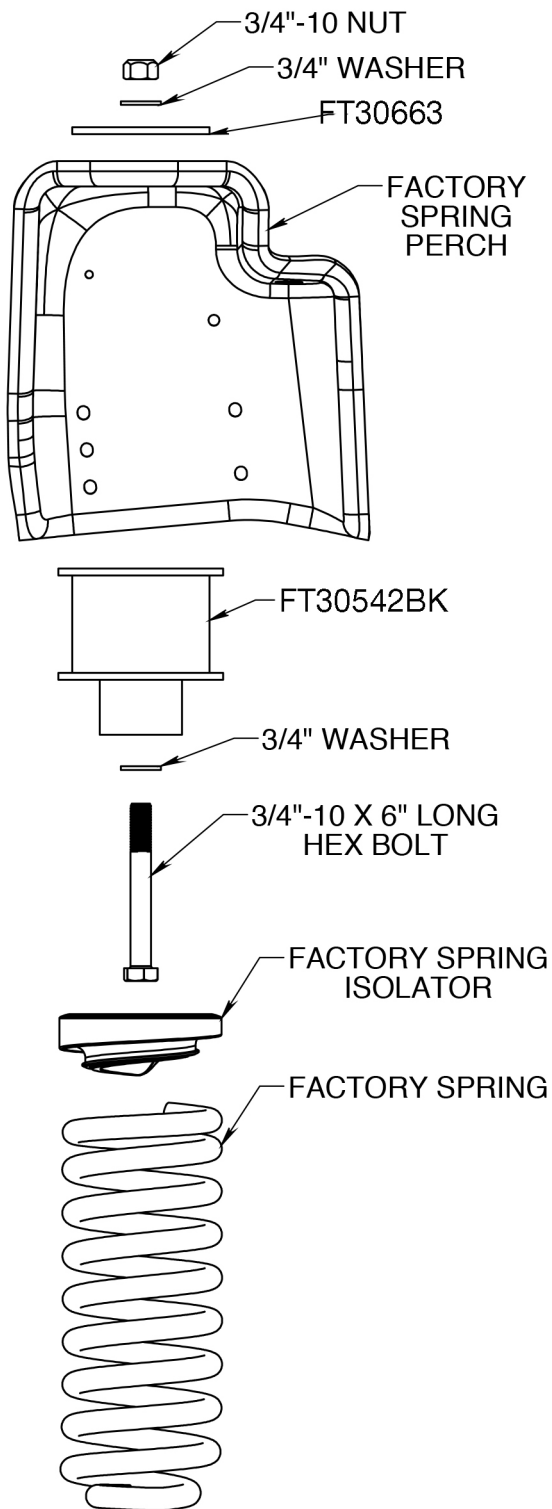

FIGURE 17 - STEP 19
19. Locate the FT30542BK (Coil spacer), 3/4"-10 x 6" bolt and the FT30663 washer. Install all the components into the factory coil bucket in the order shown below using the original factory upper coil isolator. Torque the 3/4" bolt to 129 ft-lbs. **SEE FIGURE 17**